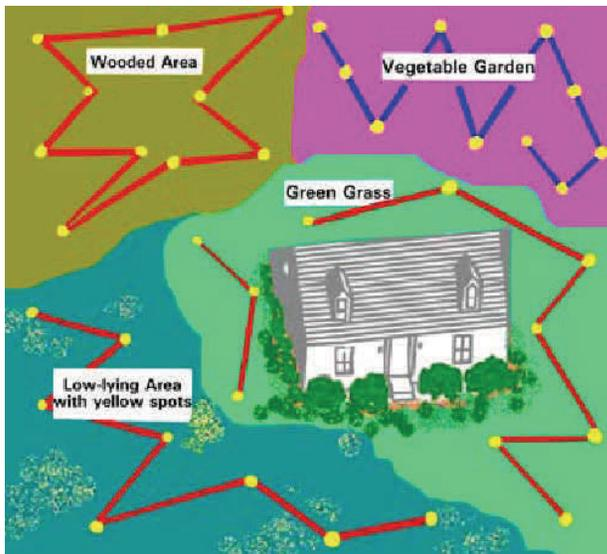

Figure 1. Area divided according to vegetation and soil characteristics. Yellow dots indicate sampling points.
Map out the area where the plants are to be grown or are presently growing. This will help in record keeping and ensure that the soil is taken from throughout the entire area. Divide the area such that each soil sample represents one soil type or condition. An area that has been divided according to obvious differences in plant performance, soil types, and drainage is shown in Figure 1.
- Use a zigzag approach when taking samples. Collect 8-10 soil samples from each location (zone) as shown in Fig. 1.